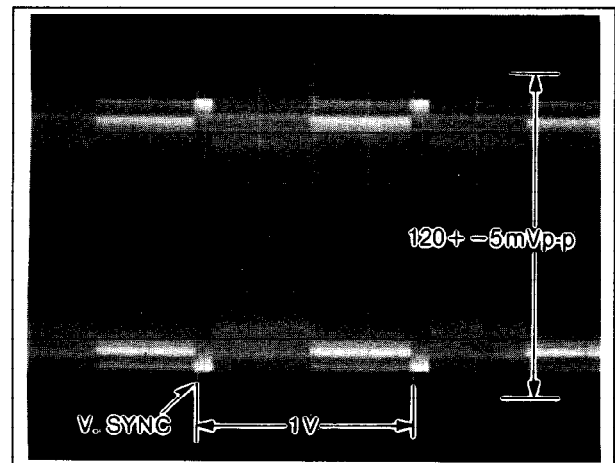

Fig.E6
3. Adjust VR3001 for  $120 \pm 5\text{mVp-p}$  as shown in Fig.E6